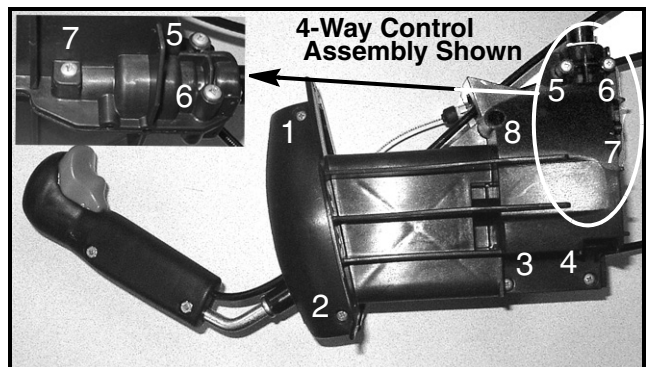

FIGURE 8
11. Turn the chute control assembly over onto its' LH housing side. Using a No. 2 Phillips screwdriver remove and discard the eight hi-lo screws securing the two housing halves of the chute control assembly. See Figure 8.
NOTE: Ensure that the joystick is oriented as shown in Figure 8.